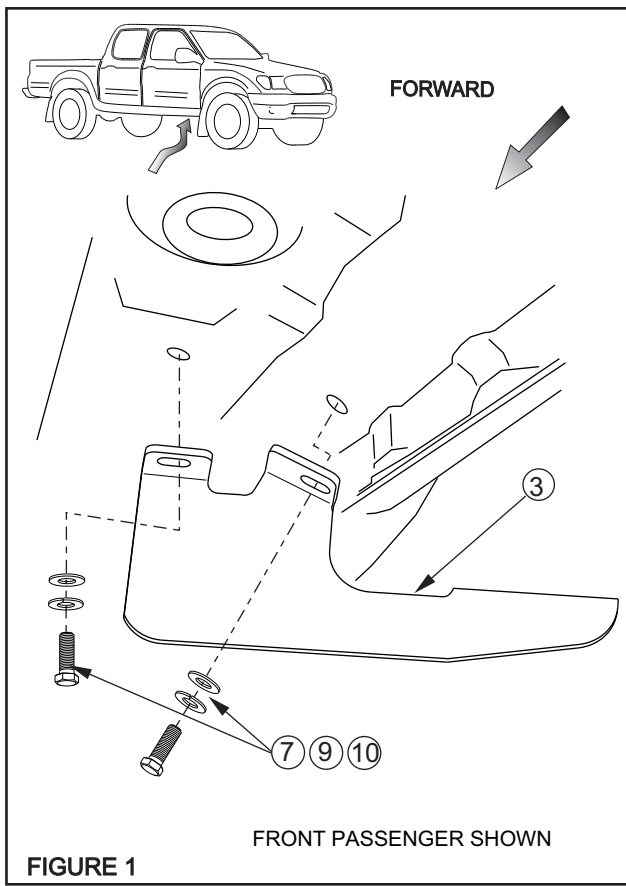

FIGURE 1
- STEP 2.** Attach mounting brackets as shown. See Figures 1 and 2.